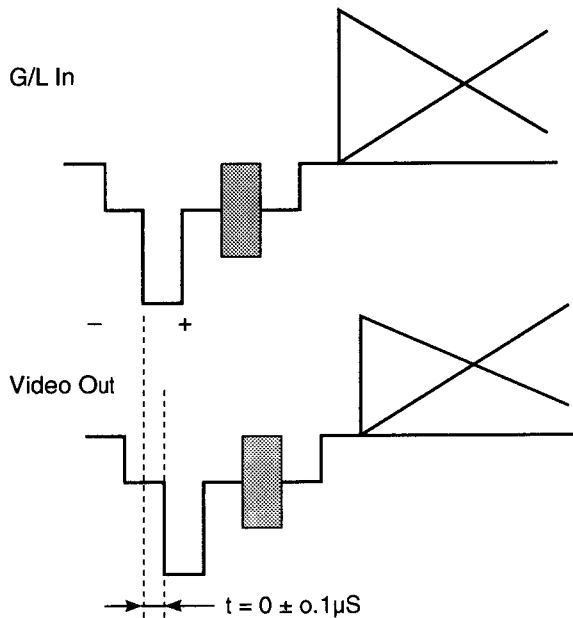

Fig. 5-5
- Adjust data with the **ARROW** keys so that the Video Out signal coincides to the G/L In signal as shown in Fig. 5-5.